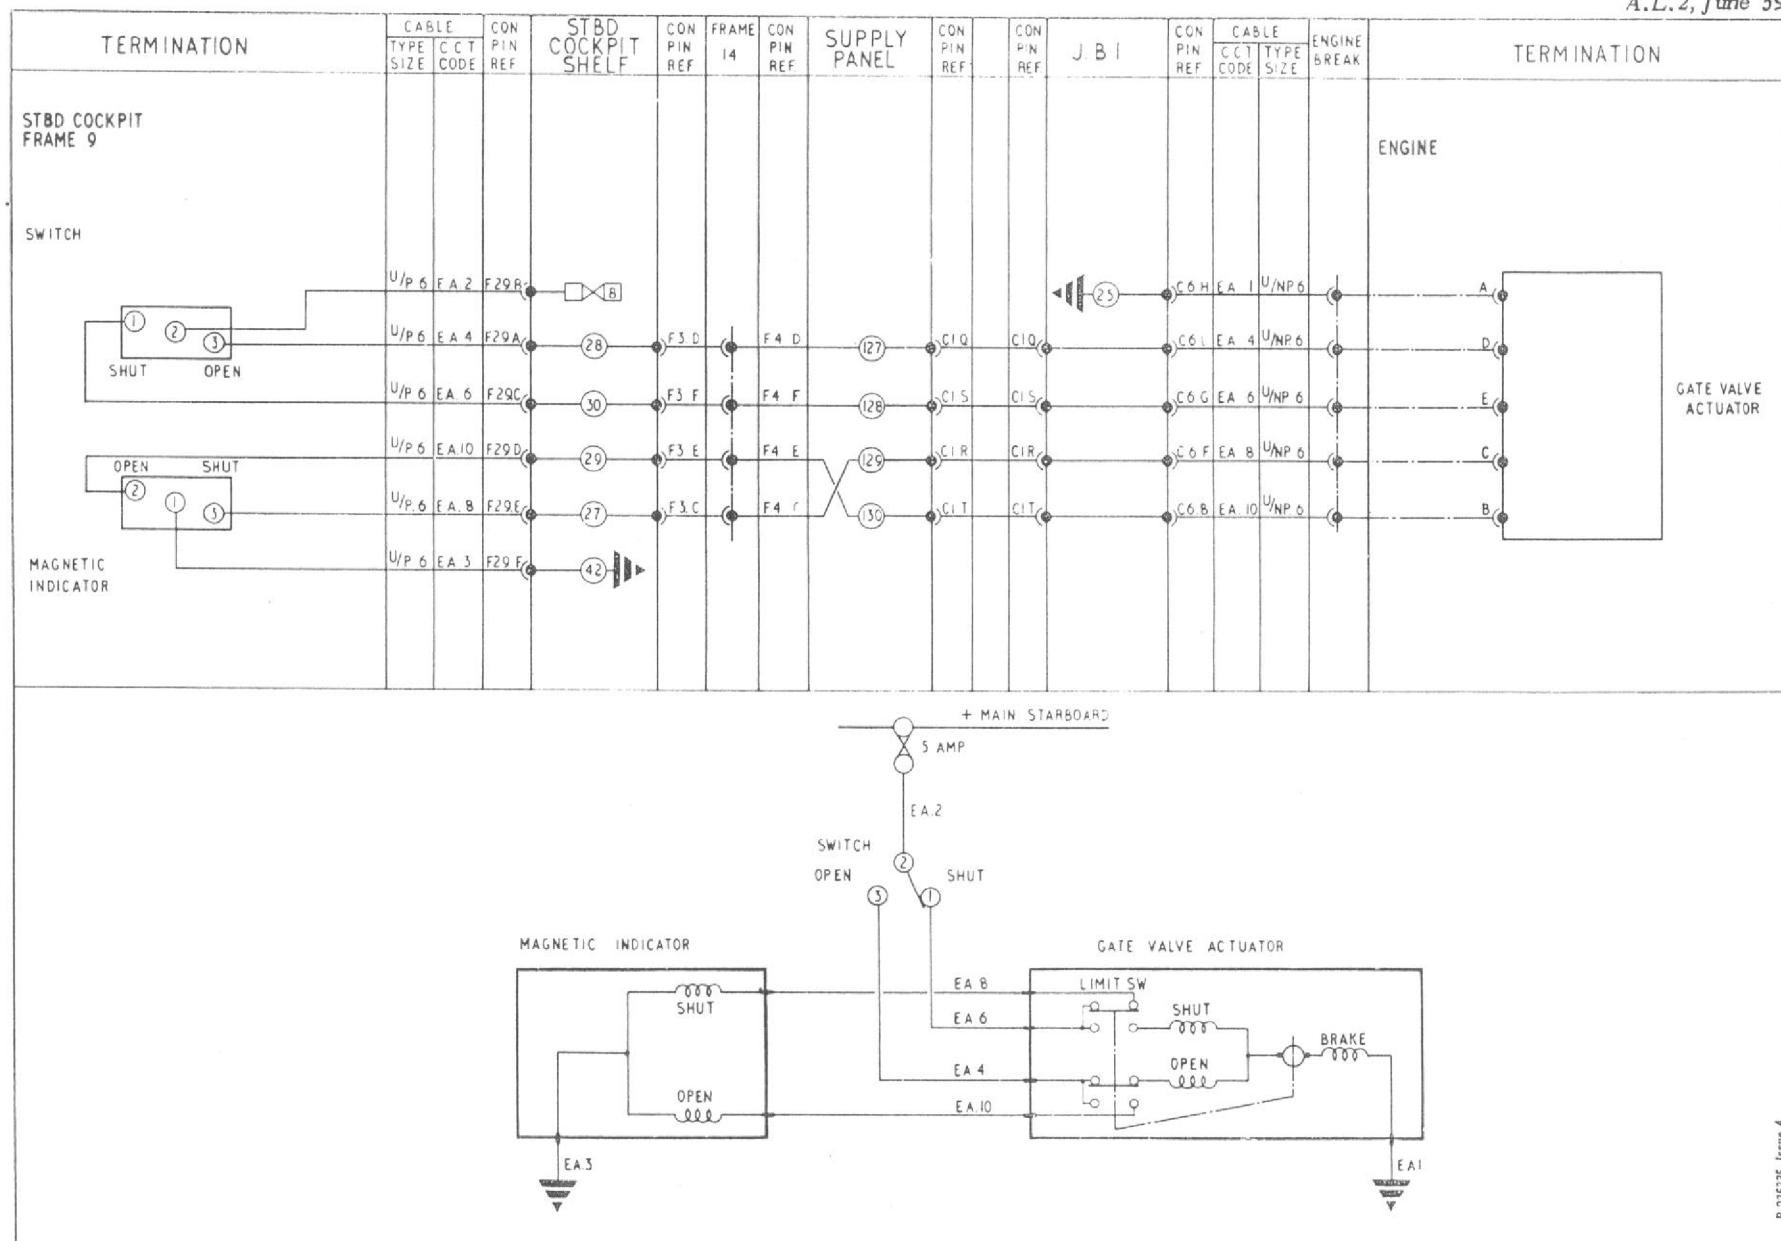

Fig. 1. Engine anti-icing (routing and theoretical)
3. The diagram of the circuit (fig.1) shows conditions when the control switch is in the SHUT position. The gate valve actuator has operated to shut the valve. The actuator shut limit switch contacts have changed over to break the supply to the actuator and complete the supply to the 'shut' solenoid of the magnetic indicator to indicate valve SHUT. When the control switch is set to OPEN, both solenoids of the magnetic indicator are de-energized and current is fed from the